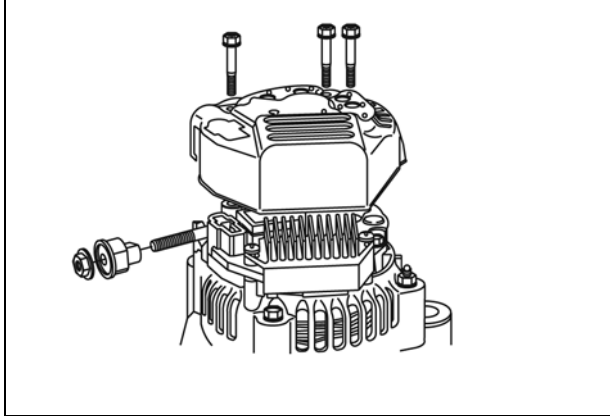

Figure 41
- Hold nut (**A**, Figure 41) with SST#.